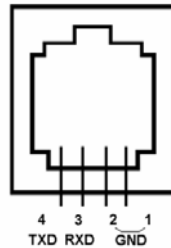

Figure 4. Serial port pin out on an 8408 hand controller
- Serial port: connect the HC to a Computer via a RS232 to 4 pin 4 wire (4P4C) RJ9 cable (iOptron item# 8412). The pin out of the serial port is shown in Figure 4.